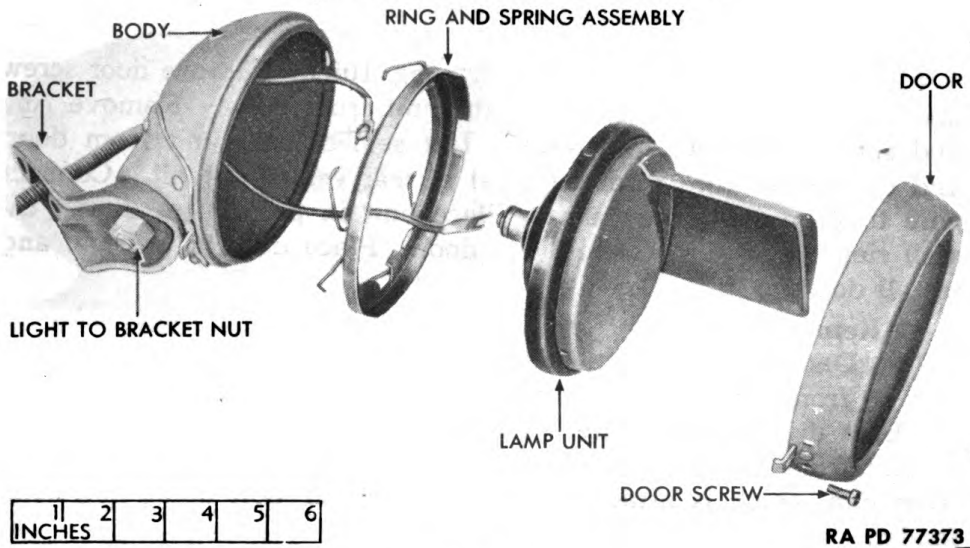

Figure 108 — Blackout Driving Light Disassembled
(1) **DESCRIPTION** (fig. 108). A blackout driving light is located on the left front fender. It is designed to supply a small amount of light to aid the driver during blackouts with minimum chance of detection from above. All but a small portion of the lens is opaqued. The transparent part of the lens is covered with a horizontal shield. Lamp, reflector, lens, and shield are all one part and constitute a sealed-beam unit.
(2) TABULATED DATA:
(1) **REPLACE SEALED-BEAM UNIT** (fig. 108). Remove door screw and lift door and sealed-beam light unit from body. Remove ring and spring assembly from door. Lift sealed-beam unit from door, and disconnect wire from terminal at rear center of unit. Connect wire to terminal of new unit. Place unit in position in door. Install ring and spring assembly in door. Place door in position and install door screw.
(2) **DETACH LIGHT** (fig. 108). Remove light-to-bracket nut and lock washer. Lift light from bracket.
(1) **ATTACH LIGHT** (fig. 108). Thread wire through hole in bracket to under side of fender. Place light in position on bracket. Install light-to-bracket lock washer and nut.